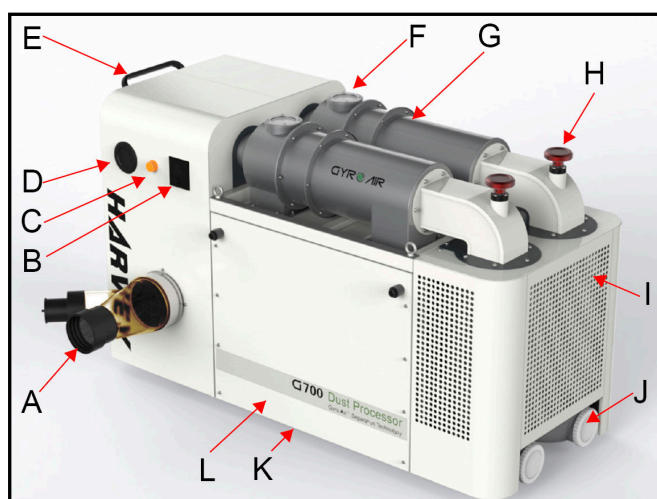

Fig.1
2.1 Feature Identification (Fig.1)